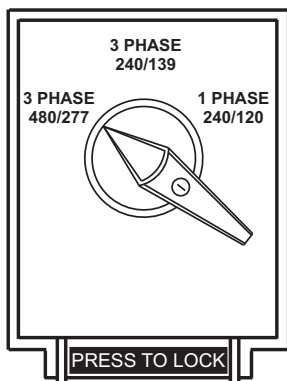

Figure 29. Voltage Selector Switch 3Ø-480/277V Position
1. Place the voltage selector switch in the 3Ø 480/277V position as shown in Figure 29.